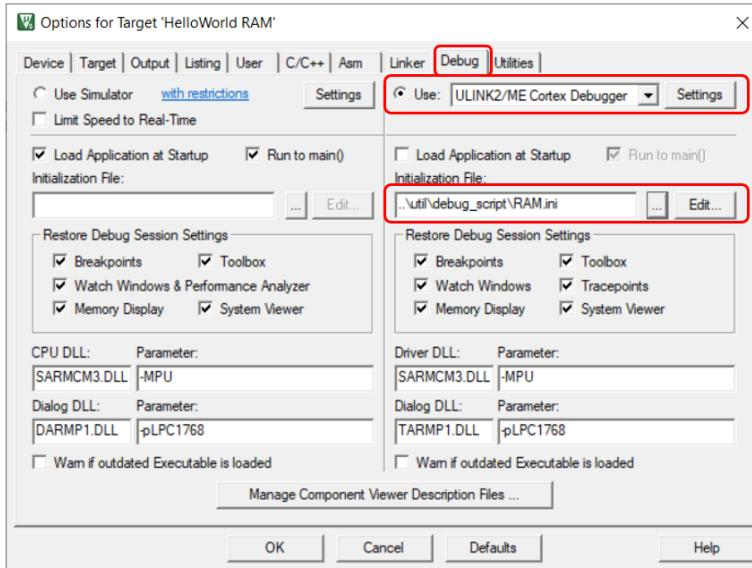
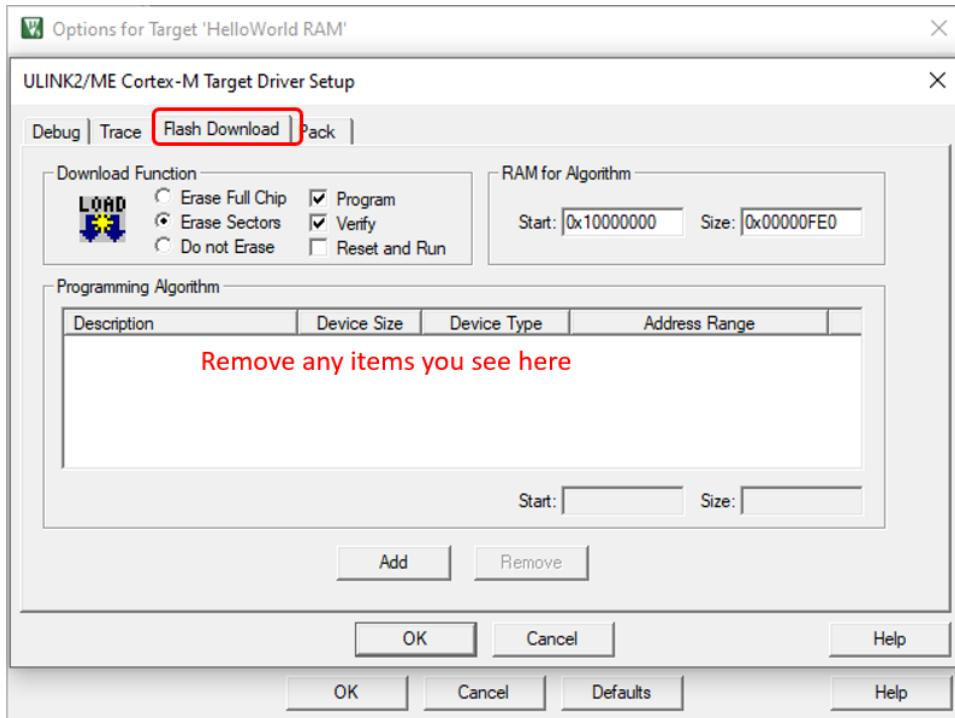

Figure 8.29: Keil IDE: Configure ULINK-ME Hardware Debugger.
Figure 8.30: Keil IDE: Flash Download Programming Algorithm Configuration.
5. Select the ULINK2/ME Cortex Debugger in the target options Debug tab and use an debug script RAM.ini provided in the starter code (See Figure 8.29) as a initialization file. An initialization file RAM.ini (see Listing B.2 in Appendix B) is needed to do the proper setting of SP, PC and vector table offset register.
6. Press the settings button beside the ULINK2/ME Cortex Debugger (see Figure 8.29) and select the Flash Download tab (see Figure 8.30). Remove the LPC17xx